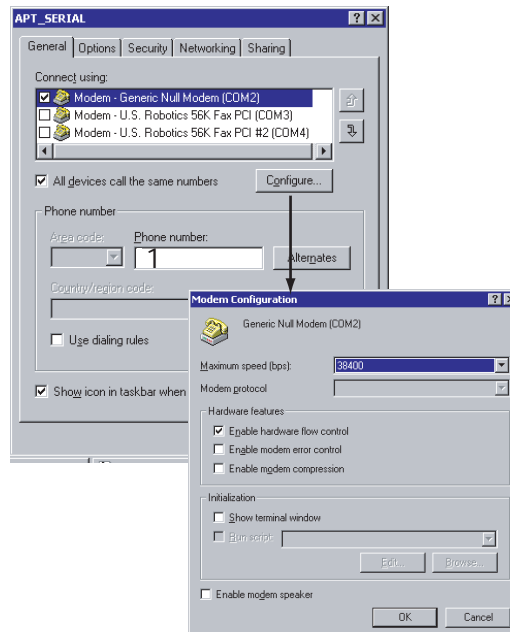

Figure 3.21: Windows 2000 Select Modem
- 10 With *Generic Null Modem* highlighted, select *Configure* to view the Generic Modem Configuration dialog box and set the maximum speed to 38,400. Set the other options as shown in Figure 3.21. Select *OK*.